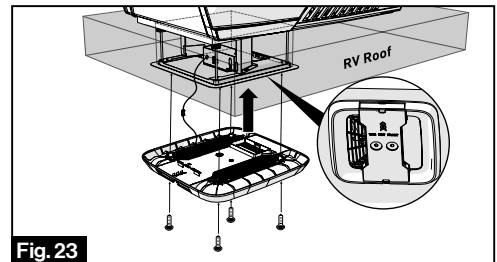

Fig. 23
4. Connect the LED cable (optional) from the ADB shroud to the control box (white strip, tagged with "LED"). (Fig. 23)